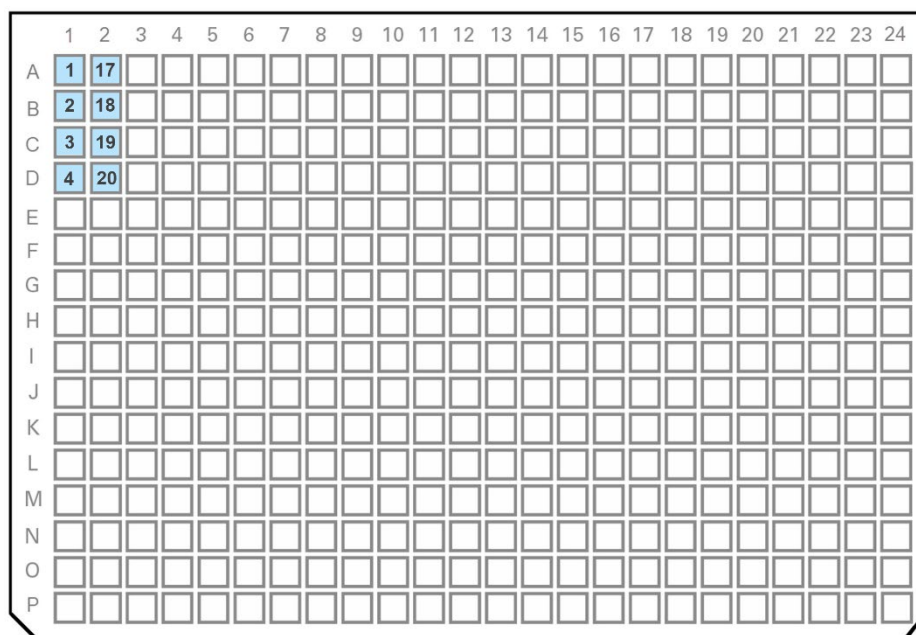

Figure 17. 384-Well Source Plate map for cell dispense. Wells A1–D2 (labeled 1–4, 17–20) are filled for Dispenses 2–4 (Steps 7–9)
- c. Use a 200 μ l regular pipette tip to slowly and carefully load 35 μ l of cell solution into the bottom of wells A1, A2, B1, B2, C1, C2, D1, and D2 of the empty 384-Well Source Plate used in Step 4 (Figure 17). Make sure no bubbles are trapped at the bottom of the wells. Wide-bore tips are NOT recommended here since they are more likely to trap bubbles when loading cells to the source wells.
- c. Using a 200 µl regular pipette tip and a new 384-Well Source Plate, slowly and carefully load 35 µl of cell solution into the bottom of wells A1, A2, B1, B2, C1, C2, D1, and D2 (Figure 17). Make sure no bubbles are trapped at the bottom of the wells.
- c. Using a 200 µl regular pipette tip and a new 384-Well Source Plate, slowly and carefully load 35 µl of cell solution into the bottom of wells A1, A2, B1, B2, C1, C2, D1, and D2 (Figure 17). Again, make sure no bubbles are trapped at the bottom of the wells.